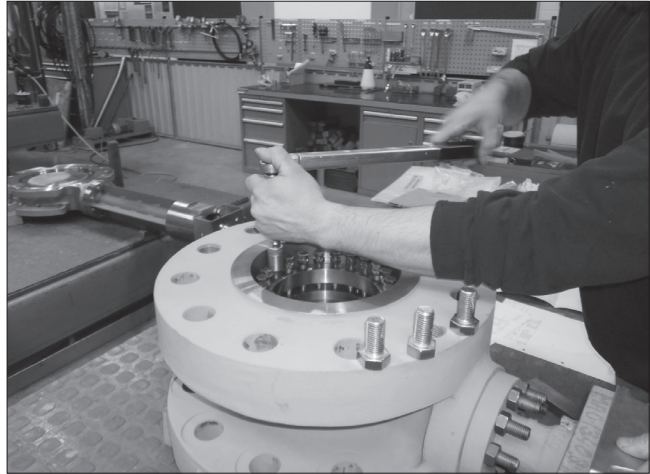

Fig. 19 Loosen the screws (306)
- Loosen the hexagon-head screws (306) (see Figure 19).